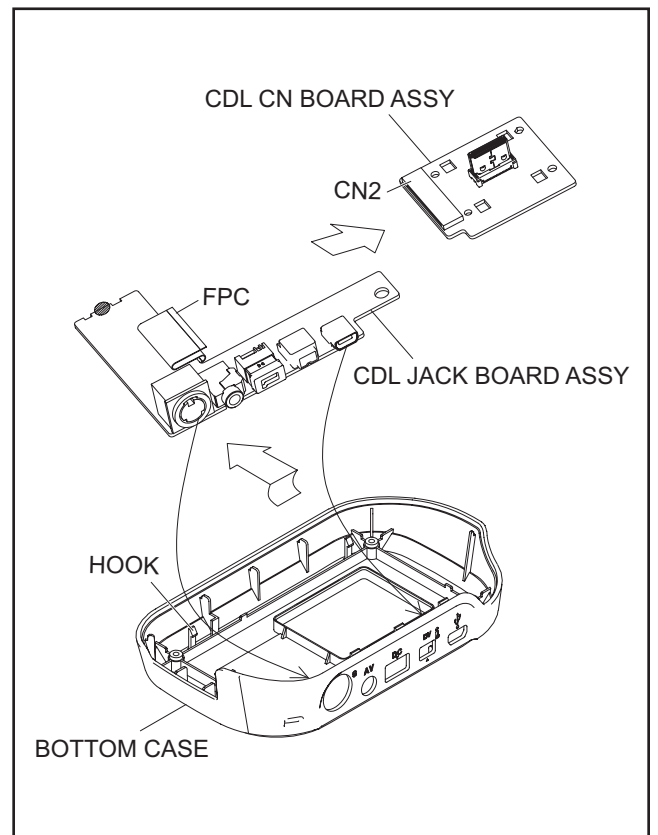

Fig.2-3-4
4. Removing the CDL CN BOARD ASSY/ CDL JACK BOARD ASSY (Refer to Fig.2-3-4)